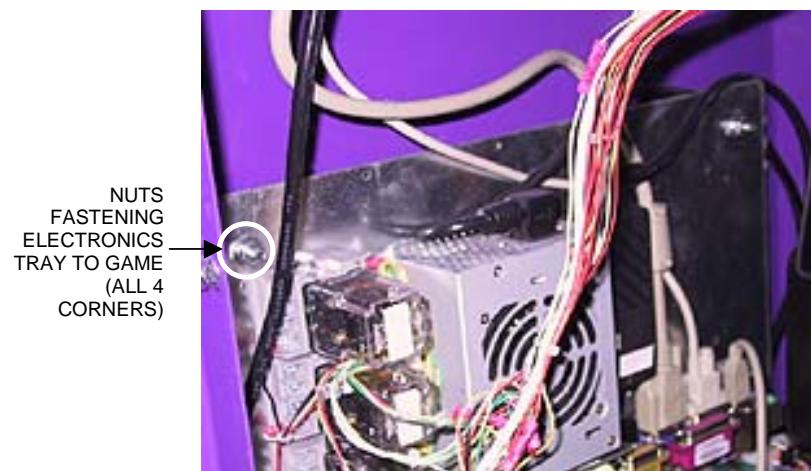

FIGURE 1 - CPU SECTION - ELECTRONICS TRAY MOUNTED ON SIDE WALL
3. Remove the 4 screws fastening the electronics box cover and carefully remove the cover. See Figure 1.